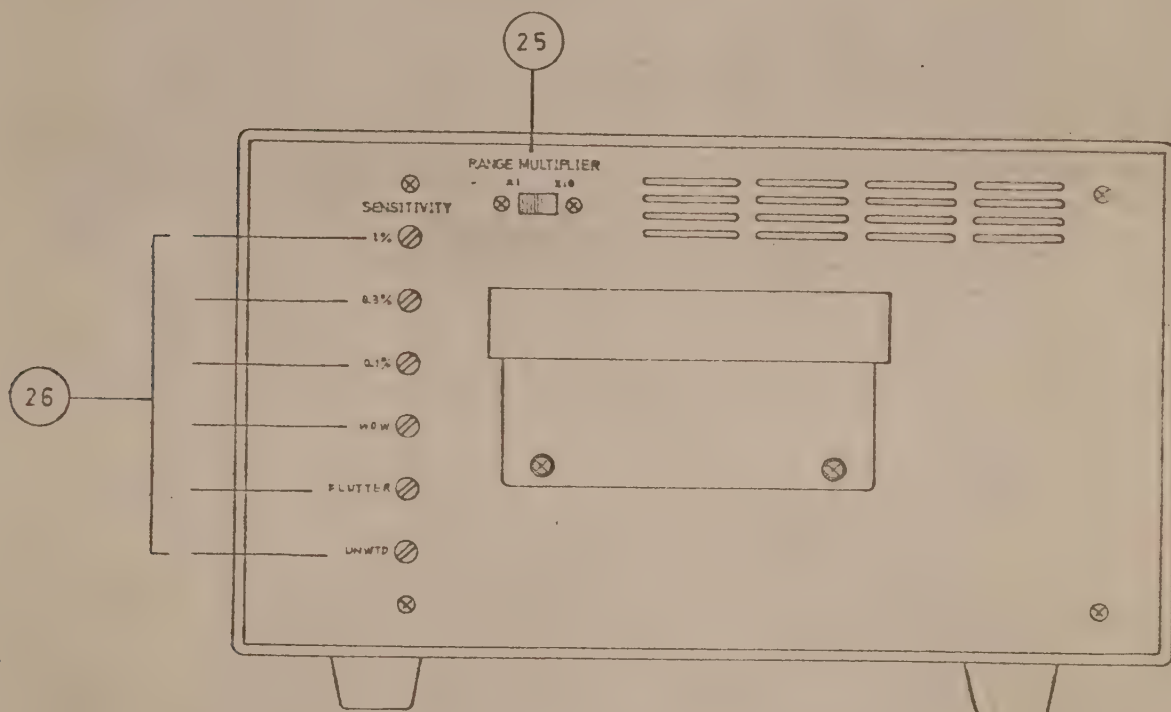

Fig. 1-4 Right side of case.
1.3.4 Right Side of Case, Fig. 1-4